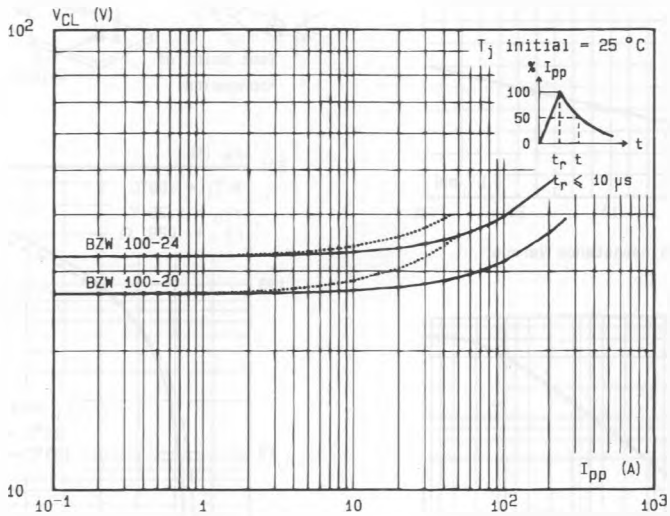

Fig.2 - Clamping voltage versus peak pulse current exponential waveform $t = 15\text{ ms}$
Note : The curves of the figure 2 are specified for a junction temperature of $25\text{ }^\circ\text{C}$ before surge. The given results may be extrapolated for other junction temperatures by using the following formula : $\Delta V (BR) = \alpha_T [V (BR)] \times [T_j - 25] \times V (BR)$